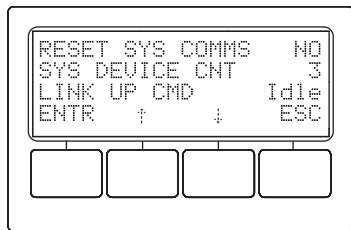

Fig. 5-29, Smart Display -
1. From the **BATT** menu, go to the **LINK UP CMD** line. Note that before the link-up, the **BATT** menu will almost certainly be showing errors because the BCMs are not powered or online. Scroll through the errors to get to **BATT INFO** to see the regular **BATT** menu options. The **LINK UP CMD** line is below the **SYS DEVICE CNT** line, which should show the correct count of BCMs in your system. (Fig. 5-29)